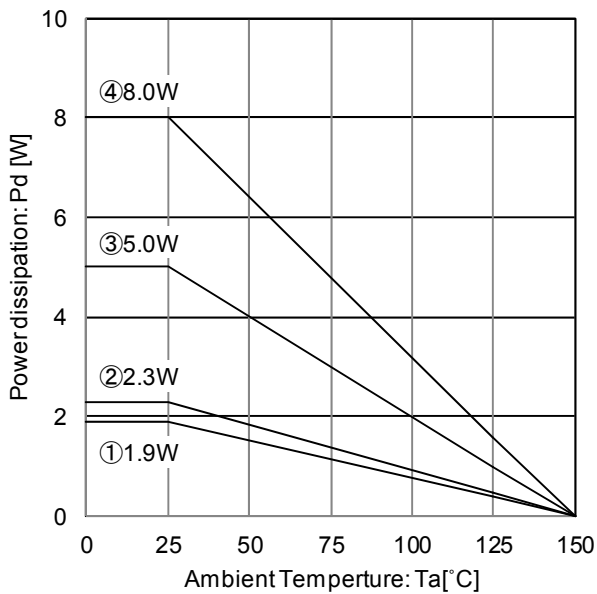

Figure 21. Package data of TO263-5F
Refer to the heat mitigation characteristics illustrated in Figure 21, 22 and the power dissipation under actual operating conditions should be taken into consideration and a sufficient margin should be allowed for in the thermal design. The amount of heat generated depends on the voltage difference across the input and output, load current, and bias current. Therefore, when actually using the chip, ensure that the generated heat does not exceed the Pd rating. Even if the ambient temperature Ta is at 25 °C, it is possible that the junction temperature Tj reaches high temperatures. Keep the whole operating temperature range within $T_j \leq T_{jmax}$.
- Calculation example : with TO263-5F package, Ta = 105 °C, V_{CC} = 13.5 V, V_O = 5.0 V, board ③ (Figure 21.)
In case of board ③ in Figure 21, Ta = 105 °C
At Ta = 105 °C with Figure 21 ③ condition, the calculation shows that 211 mA of output current is possible at 8.5 V potential difference across input and output.
- Calculation example : with T_c (bottom) = 80 °C, V_{CC} = 13.5 V, V_O = 5.0 V, I_O = 200 mA, board ③ (Figure 21.)